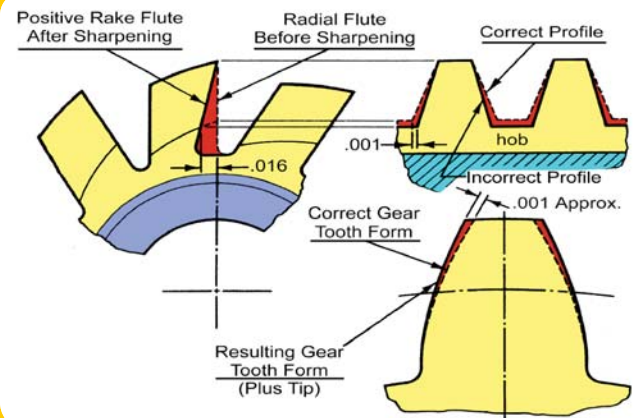

Figure 8: Hob sharpened with positive rake
- 1) Incorrect hob sharpening. The hob has been sharpened with negative rake error, making the hob tooth smaller toward the outside diameter with gear tooth larger. This is the opposite of the condition shown in Figure 8.